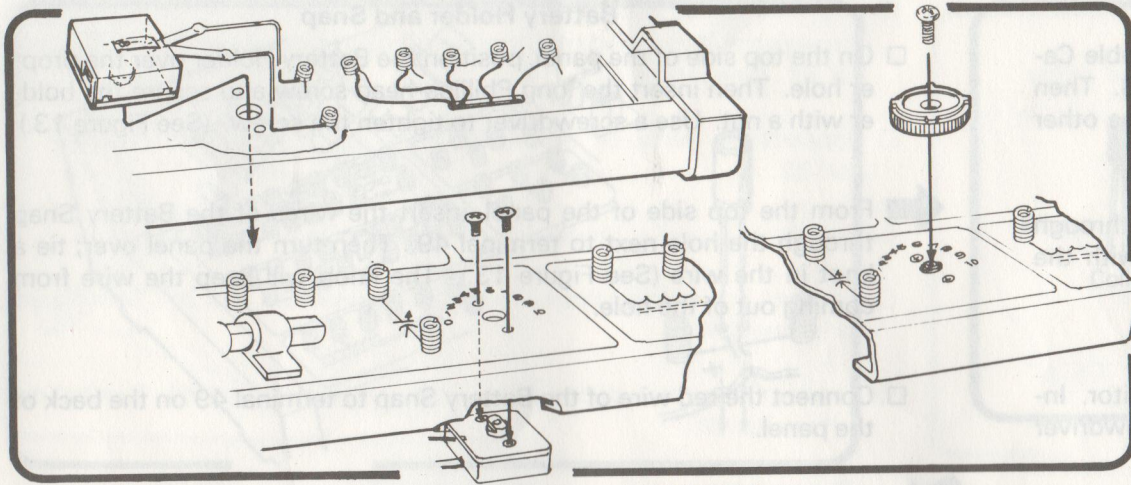

FIGURE 10
- On the bottom side of the cardboard panel, position the Variable Capacitor getting its two terminals facing terminals 42 and 43. Then connect the wire of its shorter terminal to terminal 42, and the other wire to terminal 43. (See Figure 10.)
- Turn the panel over and insert two short Phillips-head screws through the holes in the cardboard panel. Then fasten the screws with the screwdriver. (See Figure 10.)
- Mount the Turning Knob onto the shaft of the Variable Capacitor. Insert the short, Phillips-head screw and fasten it with the screwdriver as shown in Figure 10.